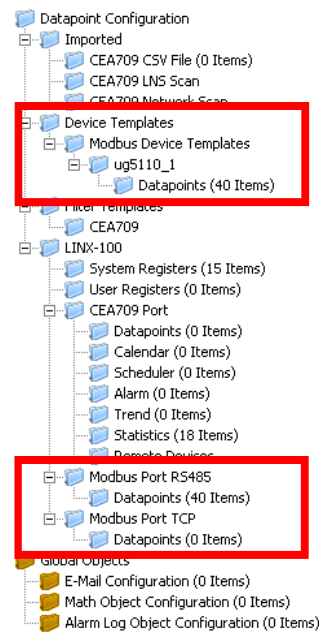

Figure 148: Data Point Manager Dialog with Modbus folder list.
- The folder list (Figure 148),